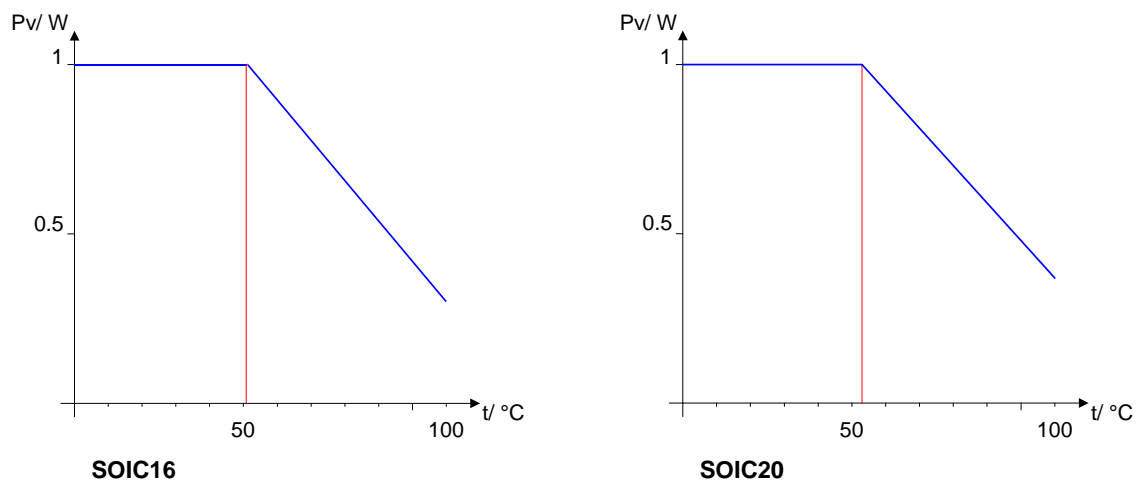

Figure 2 Max. acceptable power dissipation relative to ambient temperature
- 6) Free convection, see Figure 2
- 3 Power dissipation restrictions as per Figure 2 to be observed